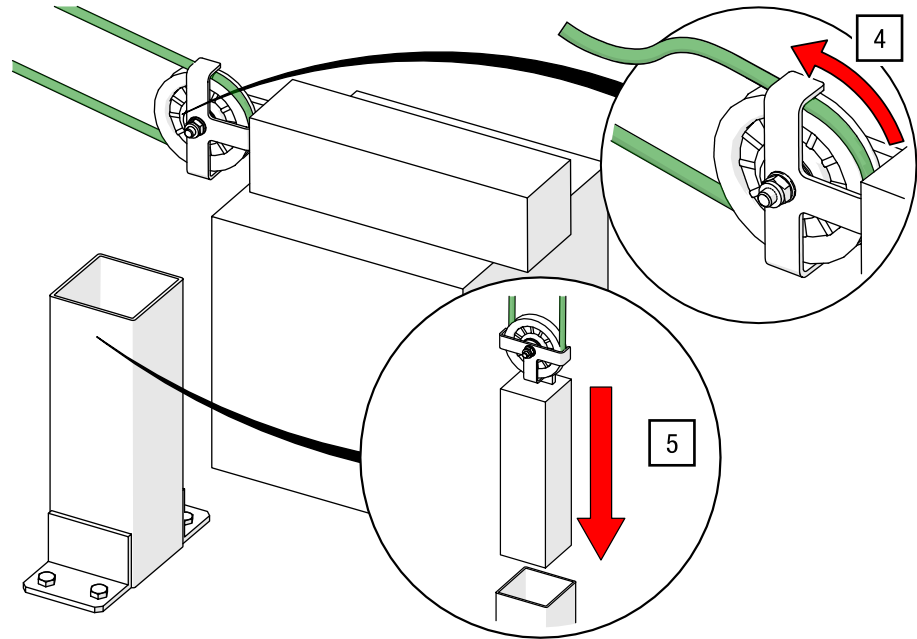

Fig. 131: Self-tensioning floor pulley with counterweight – Routing the cord and inserting the counterweight into the guide sleeve
4. Route the cord through the pulley and guide it back up into the downward guide pulley, then along the track according to the selected cord-routing variant (see Fig. 131 and *chapter 5.4 Installing the cord operation system* [► p. 65]).
5. Insert the counterweight into the guide sleeve (see Fig. 131).